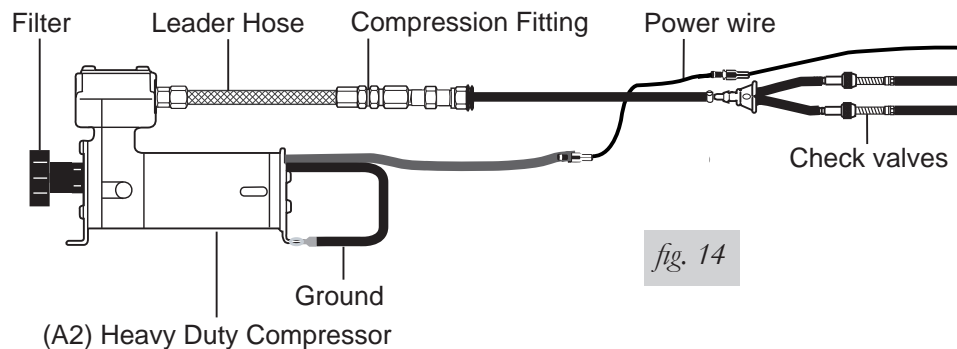

fig. 14
3. Slide the nut over the fitting and tighten securely (fig. 14).